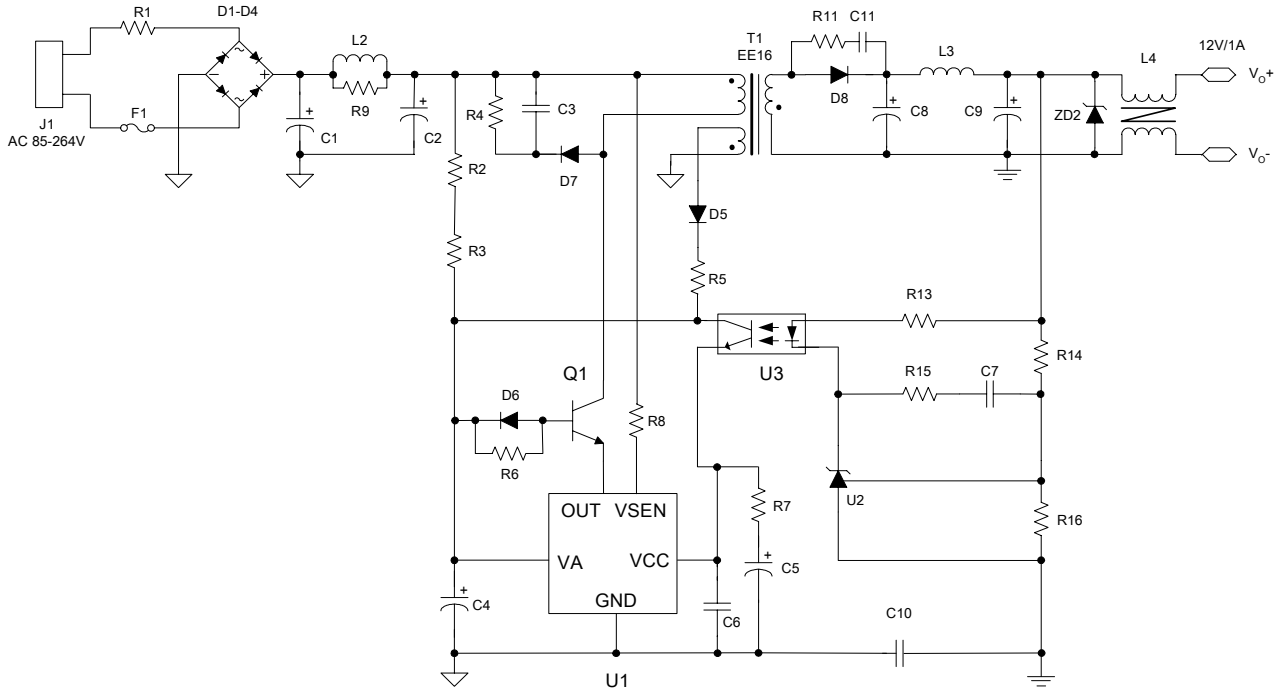

Figure 19. 12V/1A Adapter
**LOW POWER PWM CONTROLLER FOR OFF-LINE ADAPTER****AP3710****Bill of Materials for Figure 19**